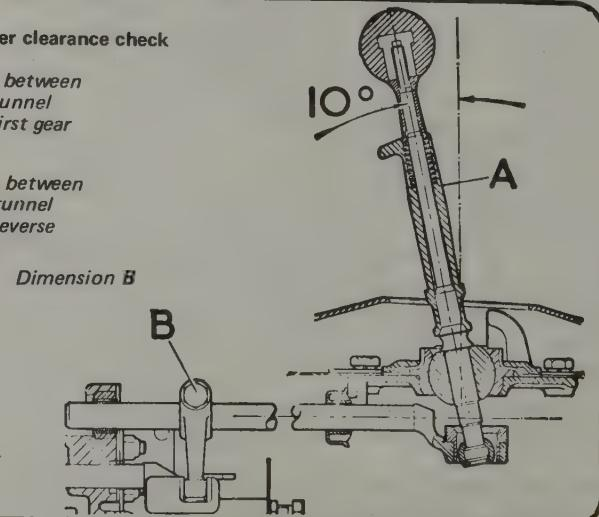

Fig. 6.36. Gear lever setting in neutral position
- 19 Note the position of the gearchange lever relative to the vertical and this should be 10° as shown in Fig. 6.36.